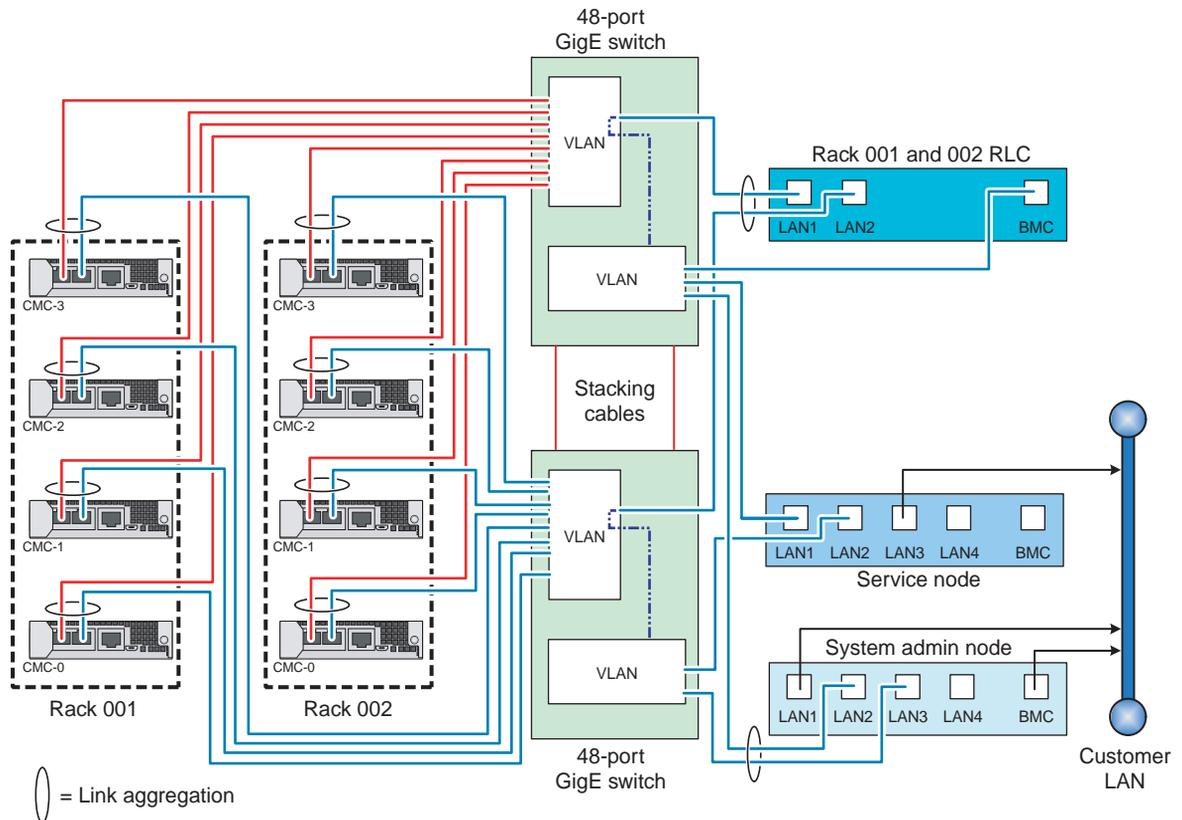
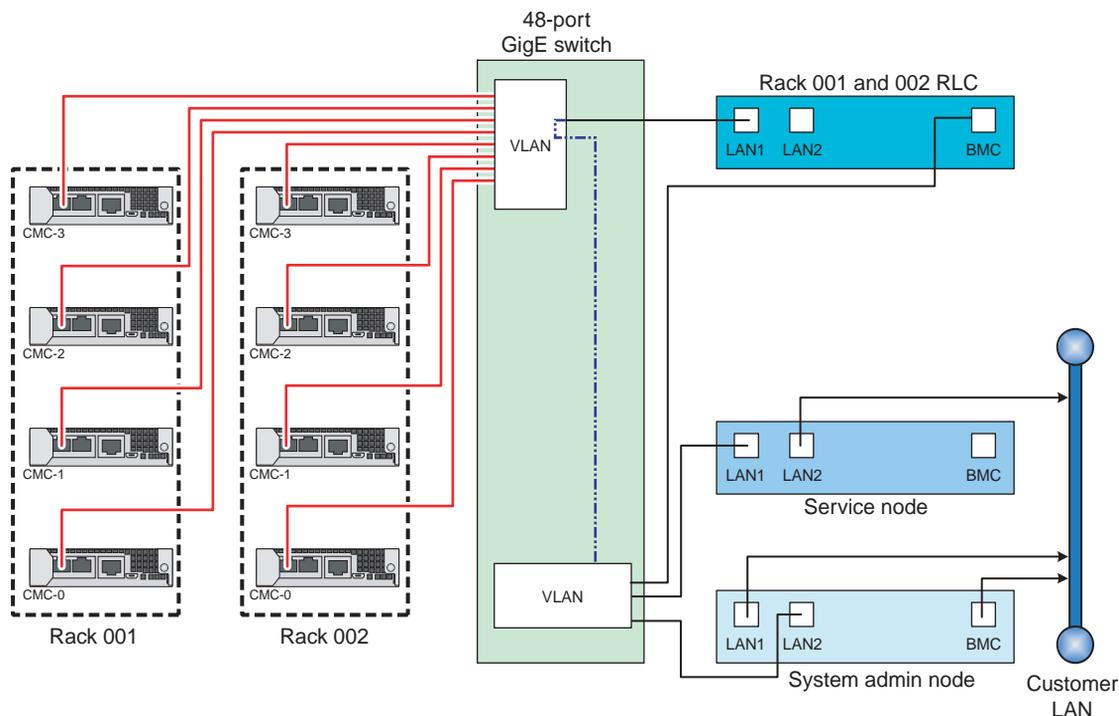

Figure 2-2 Redundant Chassis Manager Interconnect Diagram Example
Figure 2-3 Non-redundant Chassis Manager Interconnection Diagram Example
- All blade enclosures within a system are polled for and provide information to the administrative node and RLC through their chassis management controllers (CMCs). Note that the CMCs are enlarged for clarity in Figure 2-3.
The chassis managers in each blade enclosure connect to the system administration, rack leader and service node servers via gigabit Ethernet switches. See the redundant switch example in Figure 2-2 and the non-redundant example in Figure 2-3 on page 17.
Note that the non-redundant example (shown in Figure 2-3) is a non-standard chassis management configuration with only a single virtual local area network (VLAN) connect line from each CMC to the internal LAN switch. See also “Multiple Chassis Manager Connections” in Chapter 3.